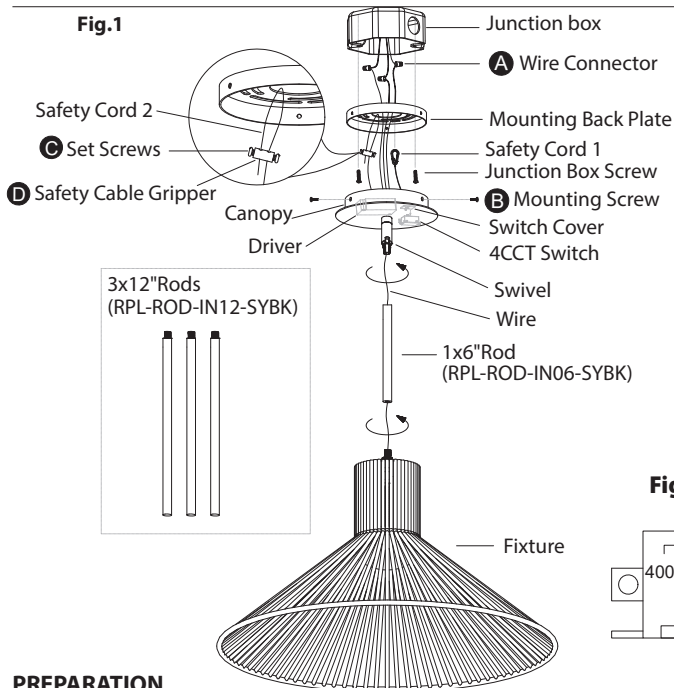

Fig. 2 Wiring
CONNECTING THE WIRES (Fig. 1/ Fig. 2/ Fig. 3/ Fig. 4)
10. Connect the driver's input wires to junction box wires as shown (Fig. 2). Make sure that all wire connectors (A) are secure. If your outlet box has a green or bare copper ground wire, connect the fixture's ground wire to it. Otherwise, connect the fixture's ground wire directly to the back plate using the green screw provided. After wires are connected, tuck them carefully inside the junction box.